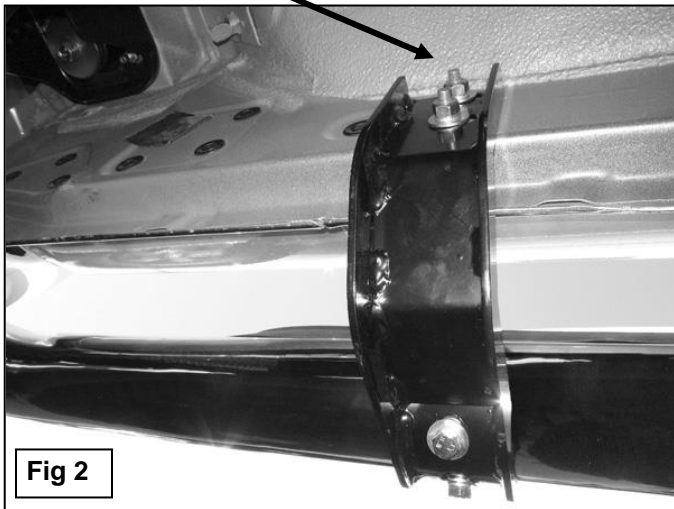

Fig 2
4. Repeat **Step 3** for the driver side rear Mounting Bracket installation, **(Figure 2)**.
5. Carefully place the driver Sidebar onto the Mounting Brackets. Attach the Sidebar to the Brackets with the included (4) 8 x 30mm Hex Bolts, (4) 8mm Lock Washers and (4) 8mm Flat Washers. Do not tighten at this time.